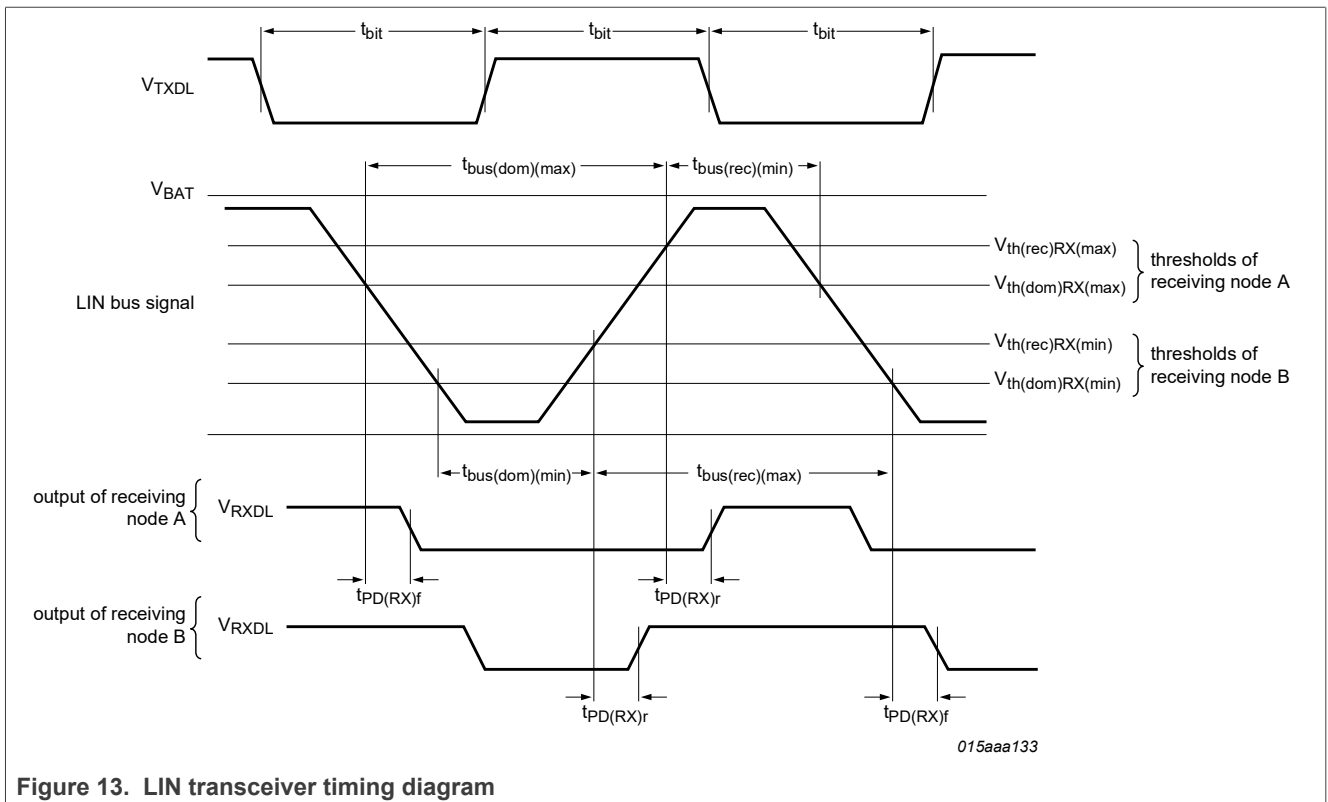
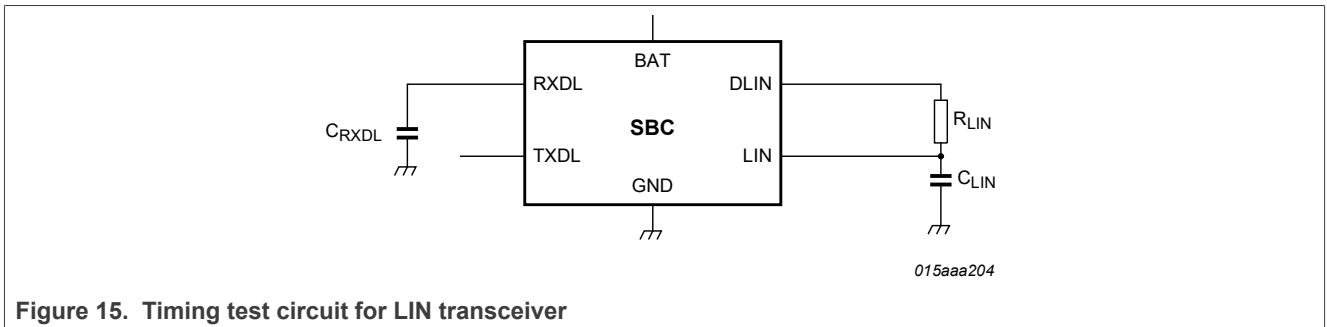

Figure 13. LIN transceiver timing diagram
Figure 15. Timing test circuit for LIN transceiver
LIN transceiver; pins LIN, TXDL, RXDL; see Figure 13 and Figure 15
- [2] $\delta 1, \delta 3 = \frac{t_{bus(rec)(min)}}{2 \times t_{bit}}$. Variable $t_{bus(rec)(min)}$ is illustrated in the LIN timing diagram in Figure 13.
- [4] $\delta 2, \delta 4 = \frac{t_{bus(rec)(max)}}{2 \times t_{bit}}$. Variable $t_{bus(rec)(max)}$ is illustrated in the LIN timing diagram in Figure 13.